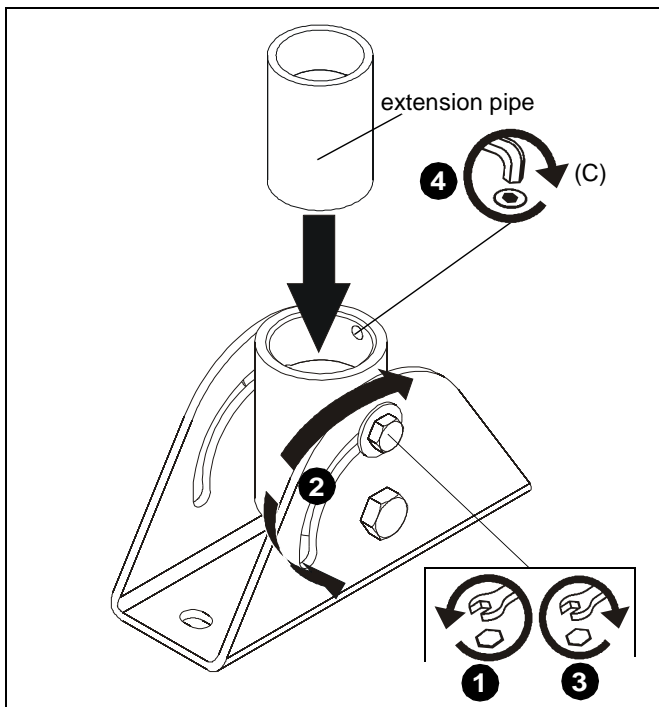

Figure 1
1. Loosen two angle adjustment screws to angle of pipe coupler to be adjusted. (See Figure 1)
2. Adjust pipe coupler to desired angle. (See Figure 1)
3. Tighten two angle adjustment screws. (See Figure 1)
4. Install extension pipe in coupler and secure using the set screw (C). (See Figure 1)